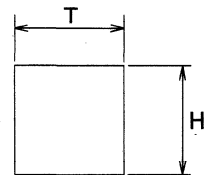

Fig. 5
(1) Use a light rail or square rail for the travel rail. Refer to Fig. 5 and Table 2.